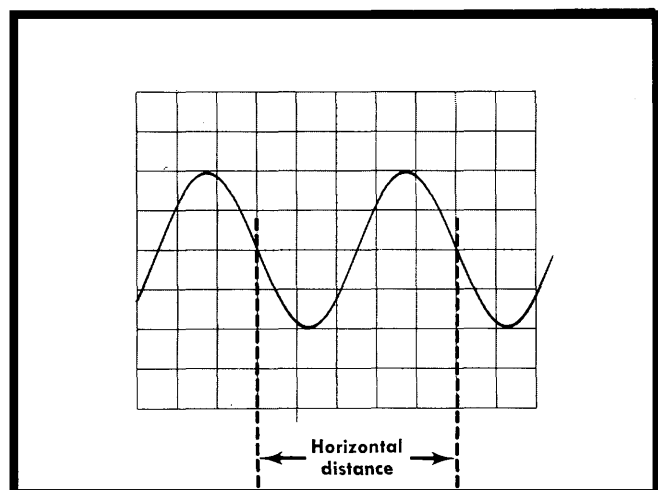

Fig. 1-3. Measuring time duration (period) between points on a waveform.
2. Set the time-base triggering controls to obtain a stable display. Set the Sec/Div switch to the fastest sweep rate that will permit displaying one cycle of the waveform in less than eight divisions (some non-linearity may occur in the first and last graticule divisions of display). Refer to Fig. 1-3.
EXAMPLE: The frequency of the signal shown in Fig. 1-3, which has a period of 0.5 millisecond, is: